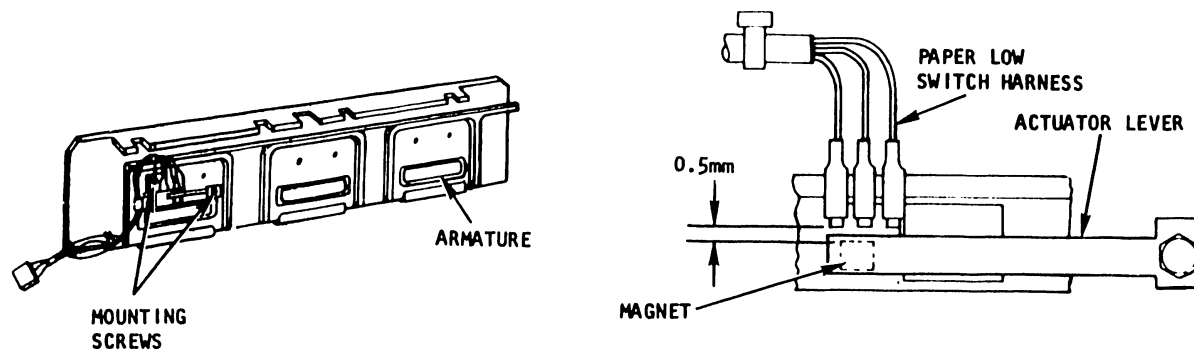

Figure 3-26. 600 LPM and 1000 LPM Paper Low Switch
- h. Hook the paper entrance cover onto the two (2) hinge brackets.
- j. Pull on the two (2) end springs and slip their end hooks on the hinge brackets.
3.4.15 600 LPM/1000 LPM Paper Low Switch Assembly Removal/Replacement (Figure 3-26)
- c. Using a 5.5mm nut driver, remove the two (2) screws and the washers which secure the paper low switch to the armature or pressure roller mounting. See **figure 3-26**.